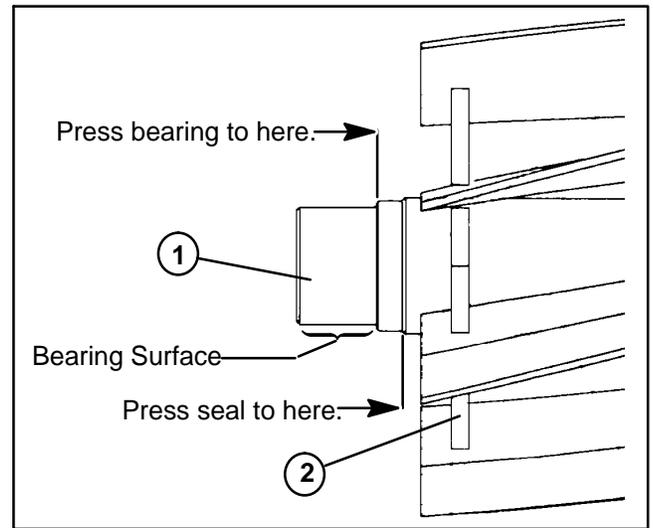

Figure 60
1. If bearings (12) and grease seals (13) were removed from the reel shaft (1), install seals and bearings to the shaft as follows:
- B. Clean bearing surfaces of reel shaft. Apply anti-seize lubricant to both bearing surfaces (Fig. 60).
IMPORTANT: Pressing the seal too far onto the reel shaft will cause the seal to spread, and not allow it to be tight on the shaft (Fig. 60).
- C. With the lip side of the seal facing the reel spider, press seal onto each end of the reel shaft (Fig. 60).
- D. Press bearing onto each end of the reel shaft (Fig. 60).